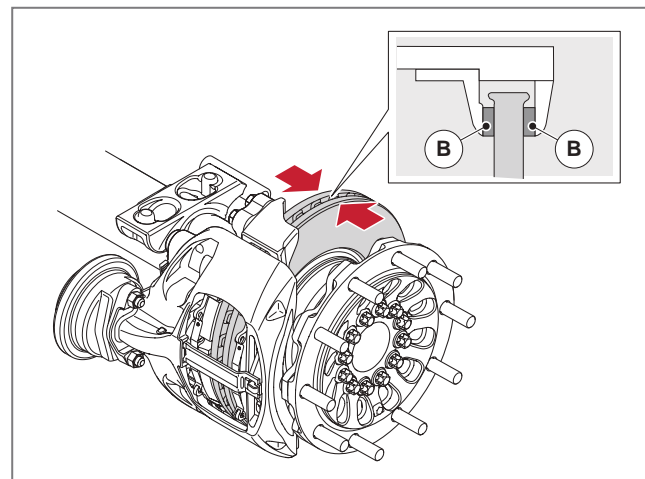

Fig. 19 - Measuring the brake disc thickness
2. Measure the thickness of the brake disc using a calliper. If the brake disc has a wear ridge, the measurement can be performed using two spacers (B; e.g. 5 mm thick flat washers), see ► Fig. 19. Reduce the measured dimension by the total thickness of the two spacers (B).